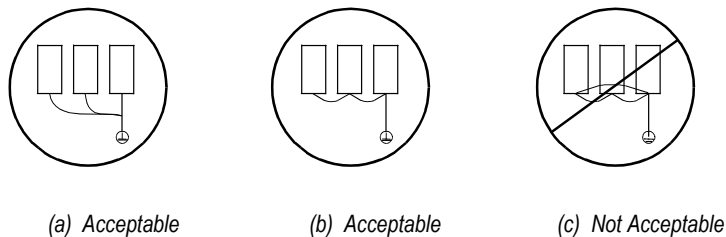

Figure 12 Grounding Example of 3 FST-800 Inverters
- When using several FST-800 Drive units side by side, ground the units as shown in Figure 12, (a) or (b). Do not loop the wires as shown in (c).